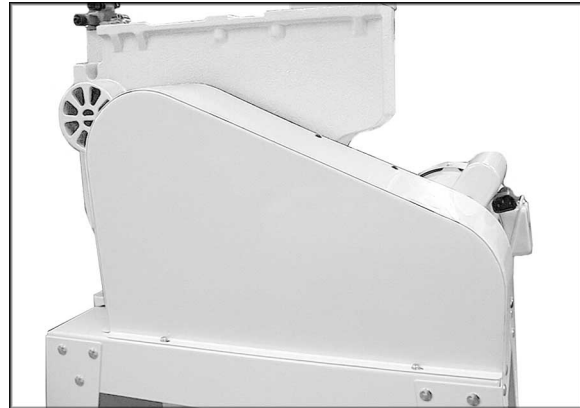

Figure 9
11. Place pulley cover over both pulleys and fasten to stand using three pan head screws, six washers, and three hex nuts, as shown in item D, page 7. See Figure 9.